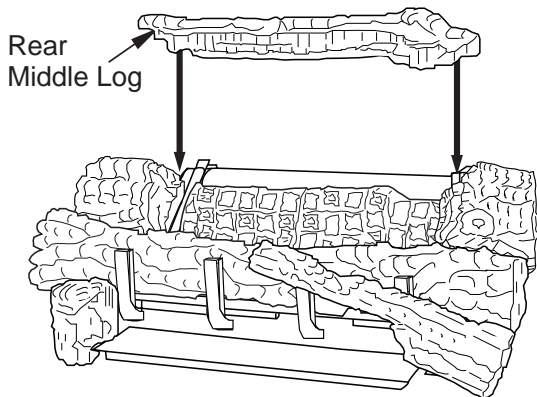

Figure 30 - Installing Rear Middle Log
7. The rear middle log should fit between the ramp log and the rear burner. The left and right middle logs have recessed areas for the rear middle log to sit into (See **Figure 30**). Be careful not to push the rear burner out of position while installing this log.